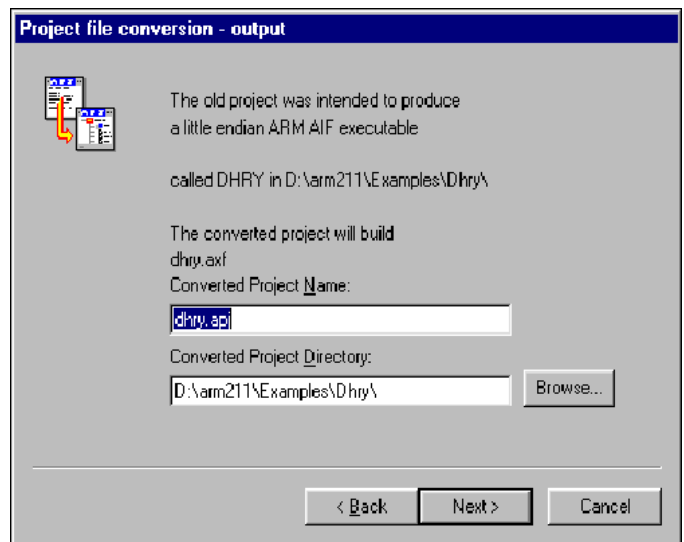

Figure 2-13 Project Conversion wizard
1. Open the project. The Project Conversion Wizard starts (Figure 2-13).